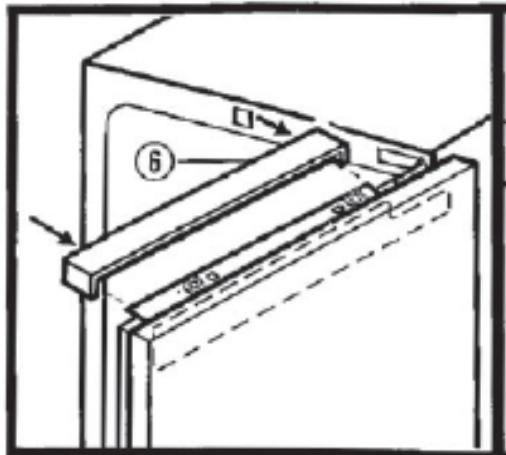

Fig. D3
**IMPORTANT** – Once installation is complete re-fit the cover trim as shown in Figure D3 as this turns the light off when the appliance door is closed.